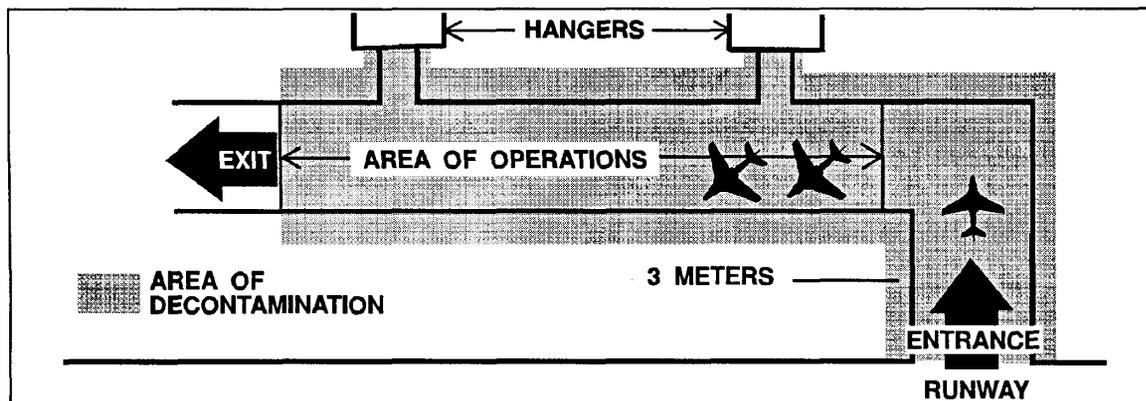
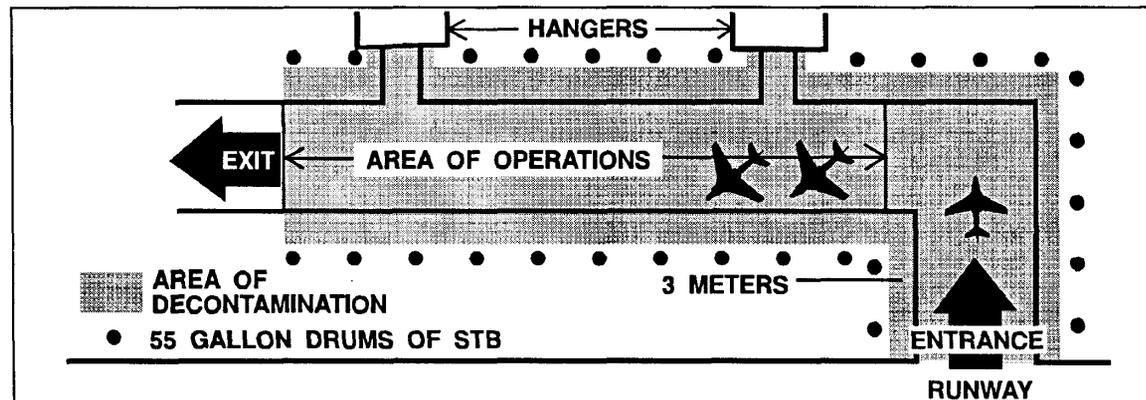
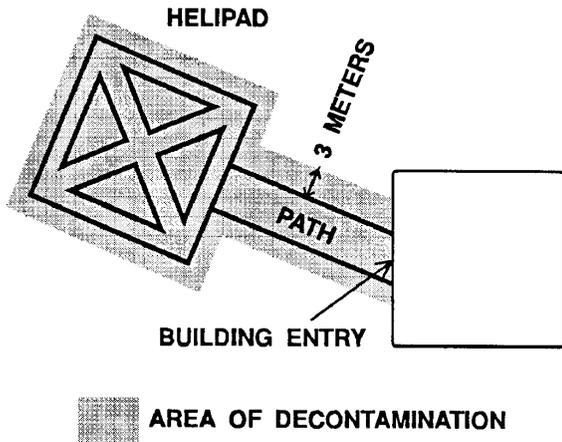
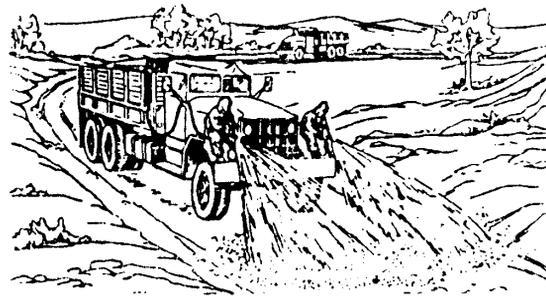

Figure 5-1. Airfield decontamination.
Figure 5-2. Field expedient airfield decontamination.
Figure 5-3. Helipad decontamination.
Figure 5-6. Terrain decon technique.
It will not be cost effective to decontaminate an entire airfield or airstrip. An excessive amount of manpower would be required for the conduct of such operations. Decontaminate from the entry through the exit and the area of operations required to sustain the ongoing operations for support of the mission (see Figure 5-1). This concept is more practical and efficient in employing limited decon assets. Figures 5-1 and 5-2 illustrate the application of STB on the entrance/exit of the air hangars. Note that the STB application includes 3 meters on each side of the runway between the entrance and the exit. One technique of application is shown at Figure 5-6, page 5-5. Transfer hazard will remain a problem until all parts of the airfield have weathered. Buildings or hangars entry/exit and doors must be decontaminated accordingly. Figure 5-2 illustrates a field expedient method which could be employed at any fixed site to cover the major entry/exit towards the site. Details of drum emplacement and use are shown in Figure 5-3, page 5-3.
To decon such sites, spray STB on entry/exit approach or on paths in an event that chemical contamination occurs (see Figure 5-3).
**Chemical and Biological Contamination.** Apply STB slurry to terrain by spray hoses attached to an M12A1 decon apparatus. Operators wear TAP aprons over their MOPP gear and sit on the front fenders of the vehicle to spray the slurry. Adjust the vehicle speed according to terrain this normally will be 2 to 4 miles per hour. The suited nozzle operators spray a fan pattern 3 to 5 feet ahead of the vehicle. The pattern overlaps on the center, and extends past both sides of the vehicle (see Figure 5-6).